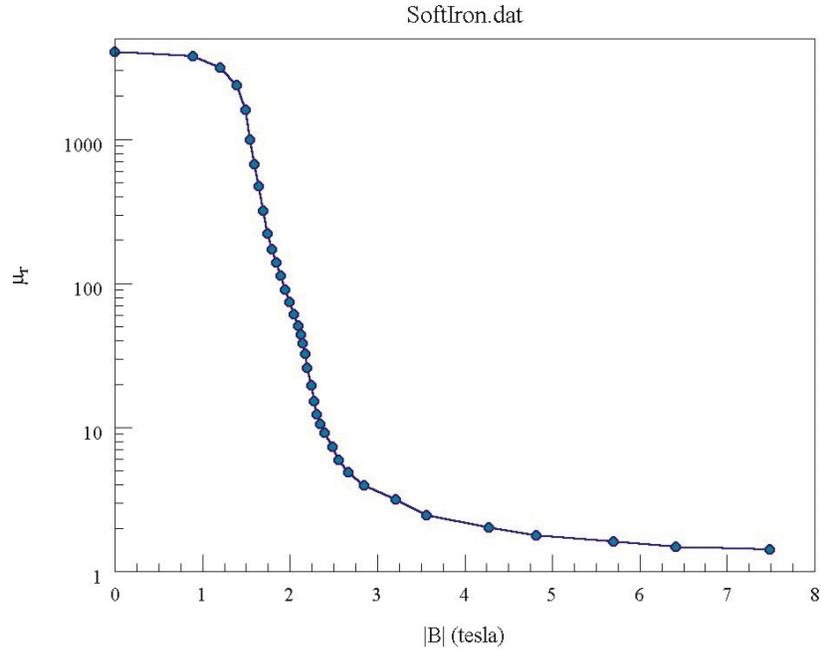

Figure 12: Variation of  $\mu_r$  with  $|\mathbf{B}|$  defined by the table SOFTIRON.DAT.
- Region 2. Iron, a non-linear material with relative magnetic permeability defined by values in the file **SOFTIRON.DAT** (Fig. 12).